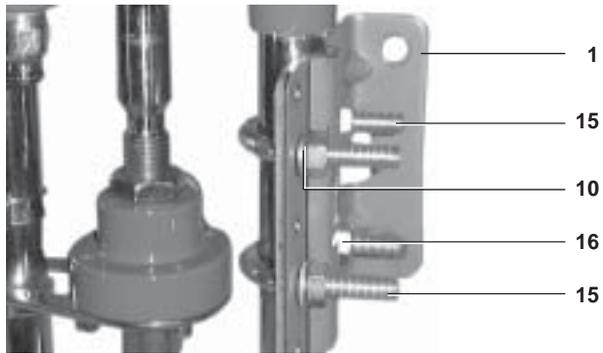

**Fig. 17**
**5.1.5** The positioner feedback arm is graduated in mm valve travel. Locate and fix the lever pin (6, 7 and 8) on the feedback arm at the equivalent valve travel position (refer to Figs. 17 and 18).